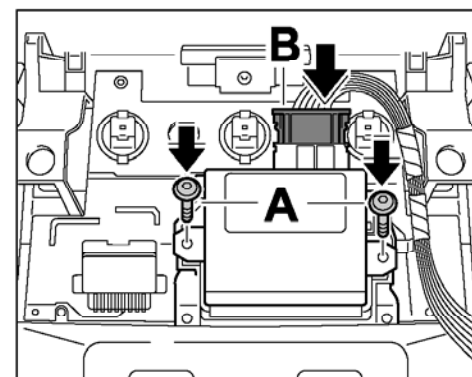

Figure 18
- 5.2.1 Position control unit on the PCB and screw in two fastening screws ⇒ *Figure 18-A-*.
- 5.2.2 Connect connector (X7) on electric wire harness (retrofit kit) to the control unit ⇒ *Figure 18-B-* until it engages securely.